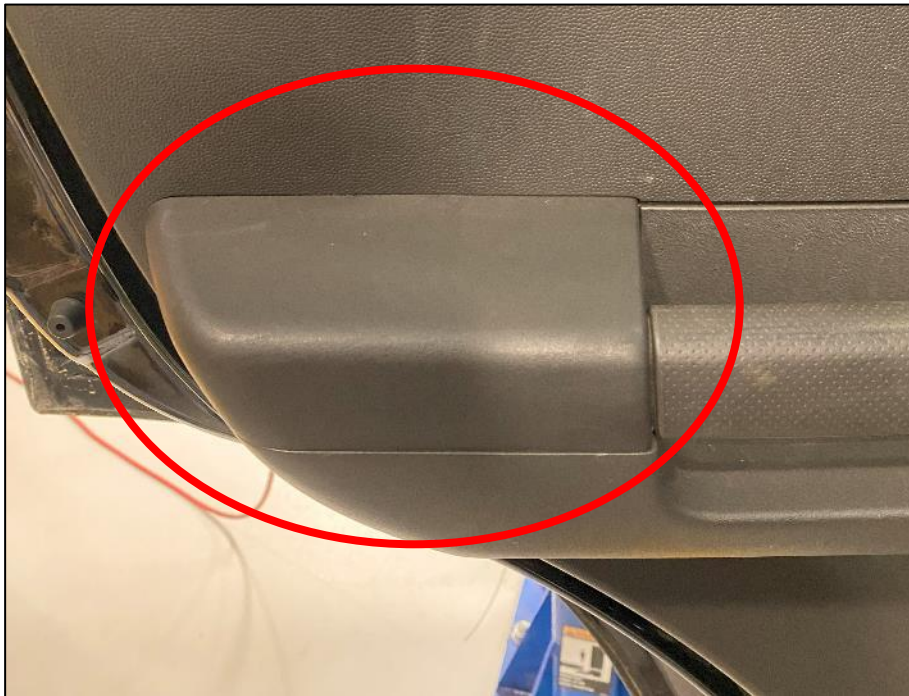

Figure 95
2. Remove the Trim Piece on the Arm Rest using a Trim Removal tool. *Figure 95.*